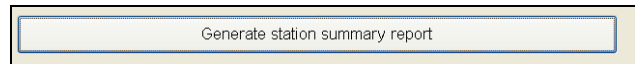

Figure 29.0.10
- Click on the **Generate station summary report** button (Figure 29.0.10).